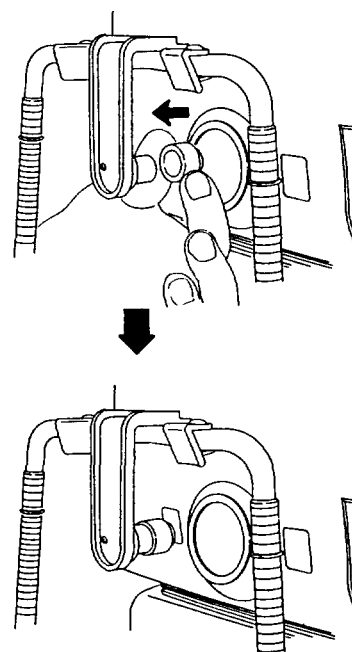

Figure 3-25
- ③ Mount the model eye to the forehead rest. Install the hard contact lens holder placing the lens onto the model eye (see Figure 3-25).
- ④ Carry out the keratometry measurement.